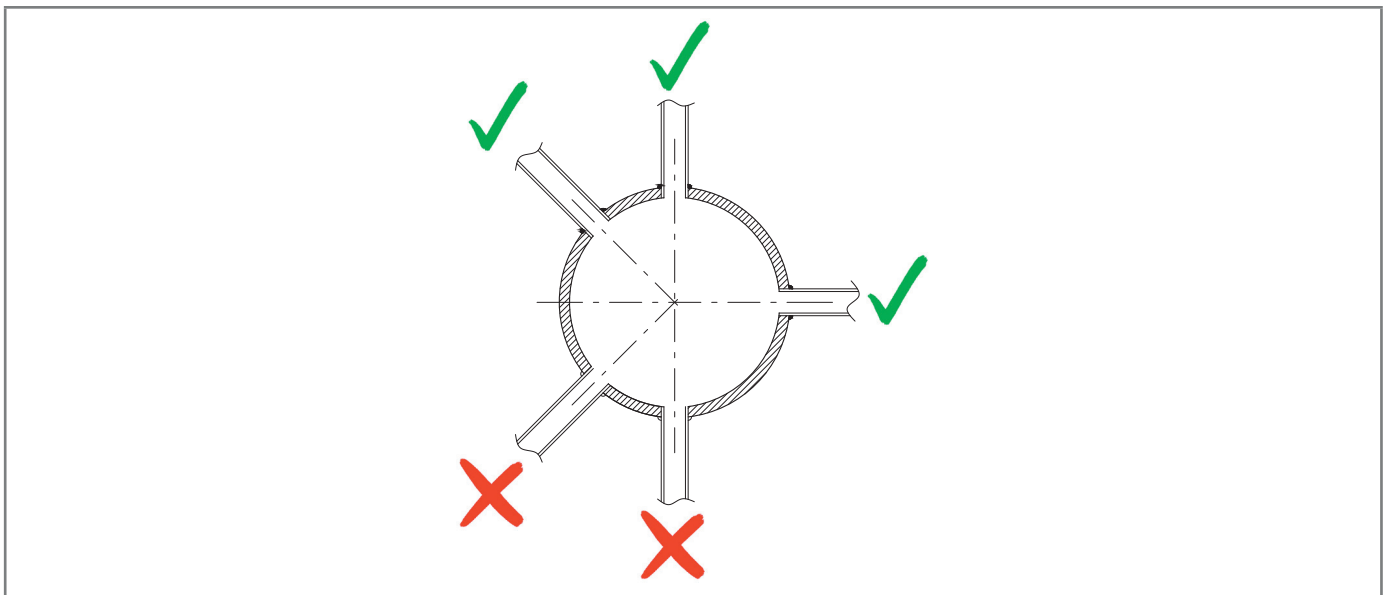

Fig. 6.9. Welded connections of the pneumatic connection
- the pneumatic connection fittings are always welded to the top or at most 90° on the axis of the connection itself (refer to Fig. 6.9);